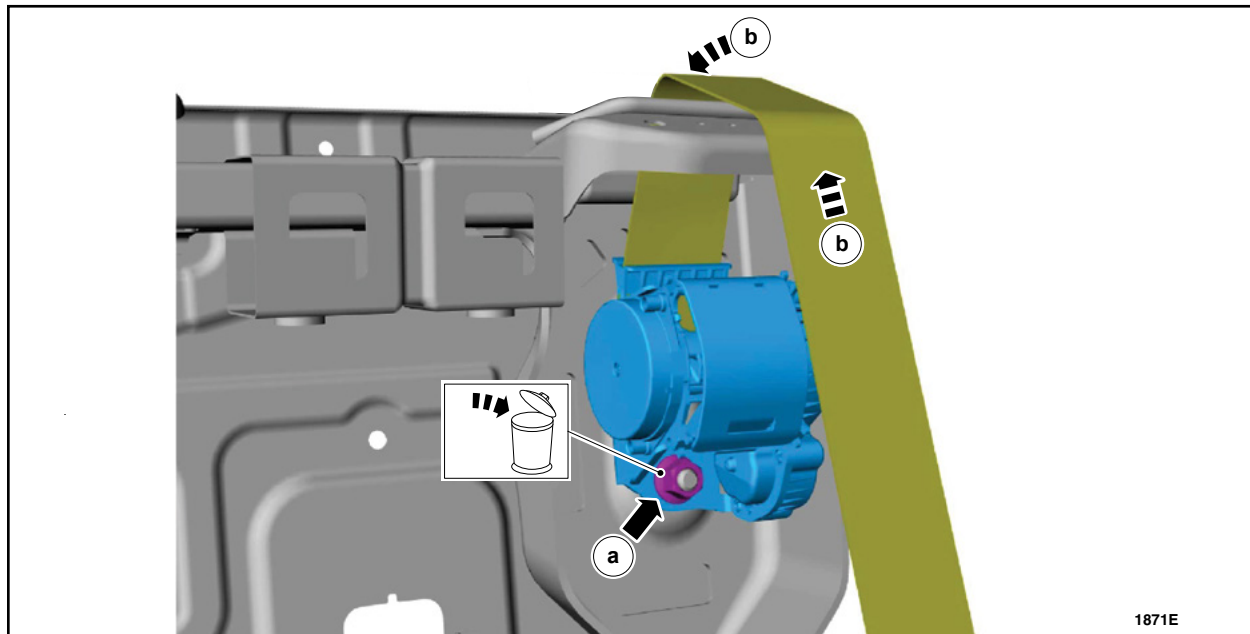

FIGURE 6
6. Remove the second row center seatbelt retractor. See Figure 6.
26. Using a *new* retainer install the seatbelt retractor. See Figure 6.